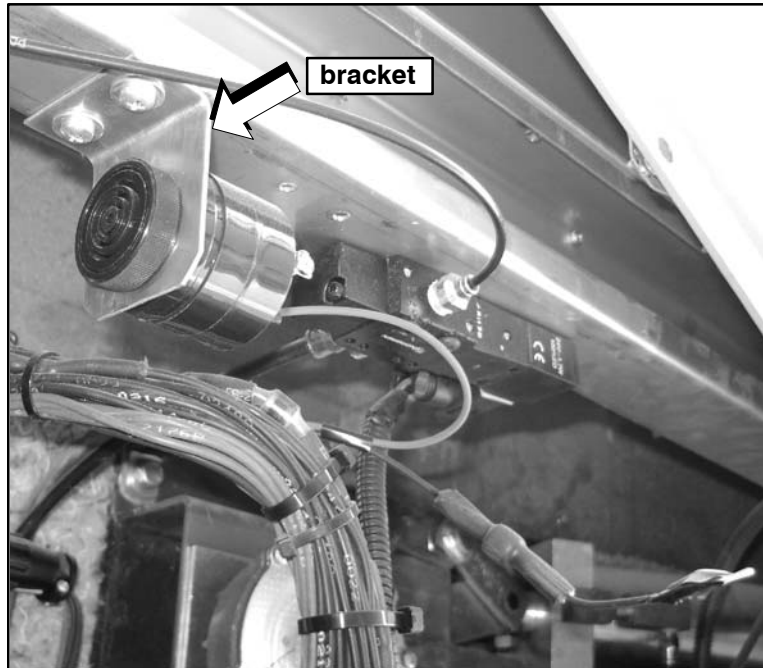

Figure 36.
60. Install the beeper, p/n 07-08-6252, in the bracket, p/n 07-08-2796 (refer to Figure 36).